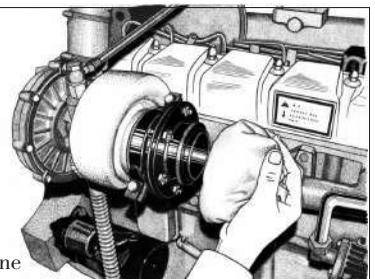

Fig2-11 Stop the Engine
4.5 When the engine runs away, cut off fuel supply or choke the air intake system in order to stop the engine (see Fig 2-11).